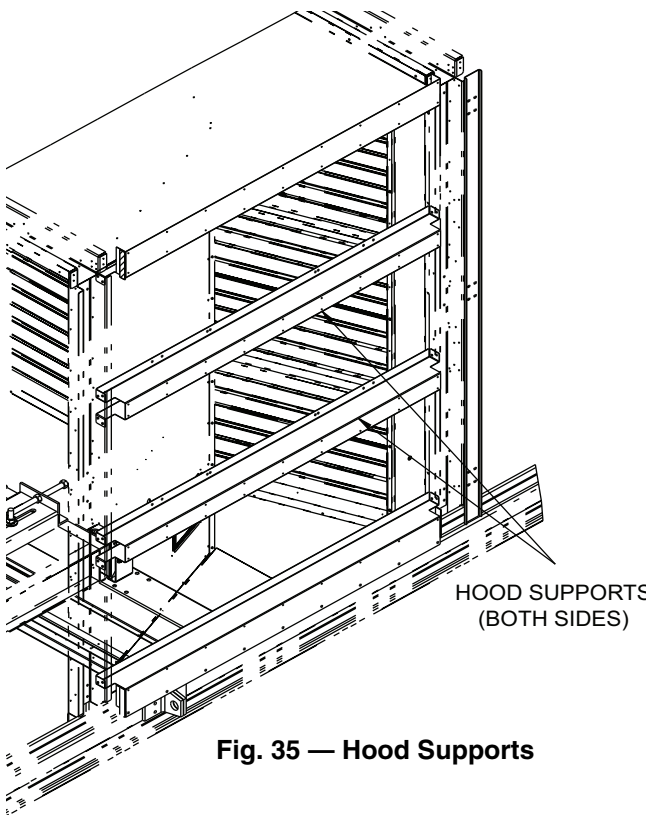

Fig. 35 — Hood Supports
- b. Remove the hood supports (quantity 2 or 3) (see Fig. 35).
- d. Reinstall hood supports (Fig. 35).